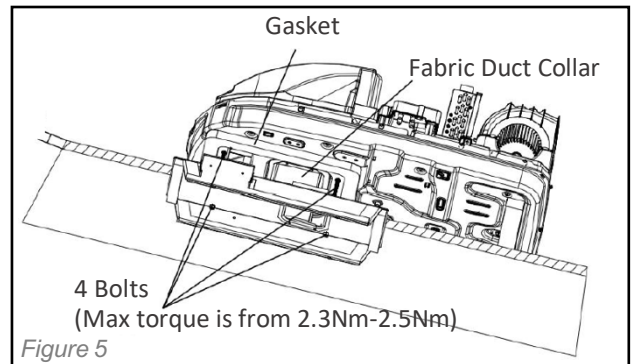
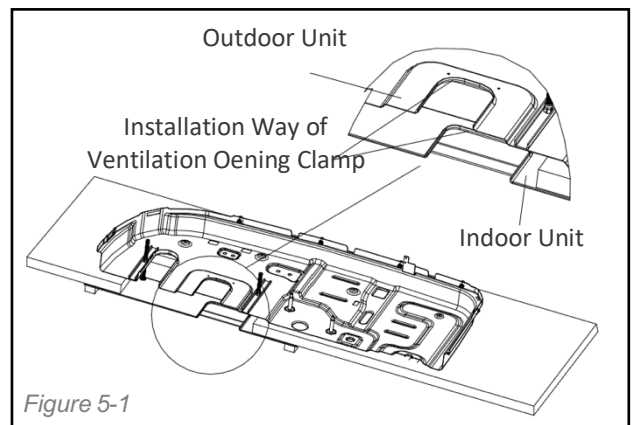
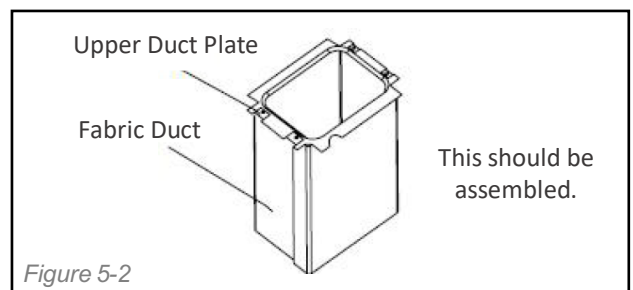
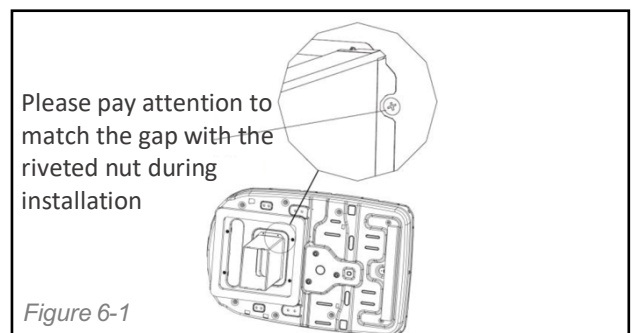

Figure 5
Figure 5-1
Figure 5-2
Figure 6-1
3. Before mounted to the ceiling the roof assembly top air conditioner, can be the fabric duct collar must be fastened to the base pan of the roof top air conditioner with 4 screws by upper duct plate (see Figure 5-2, Figure 6-1, Figure 5, Figure 5-1).
5. Secure top air conditioner the ceiling assembly with the mounting frame to bolts the roof (see Figure 5). You must start (thread) the mounting bolts by hand to avoid cross threading. **DO NOT START THE MOUNTING BOLTS WITH AN AIR GUN.** The mounting bolts should be tightened; process is completed when the base pan gasket has been evenly compressed.